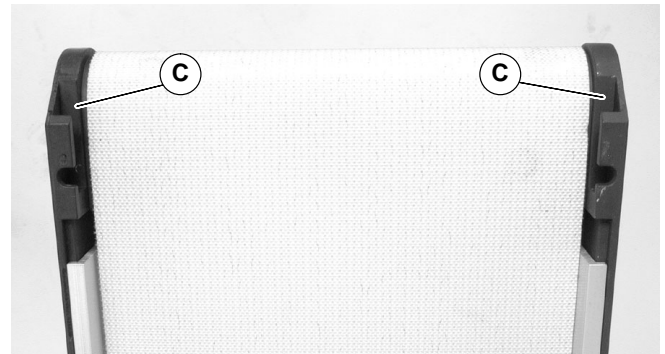

Figure 2
2. Locate assembly slot (C of Figure 2) in conveyor head plates.